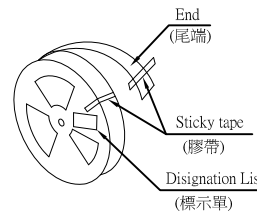

Fig. 3
- (4)After winding the material tape, stick the COVER TAPE with 60 mmlength, 15 mm width stick tape, and fix it on the circumference of the reel, as shown in figure 3.